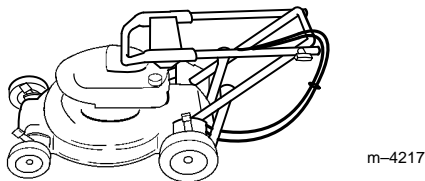

Figure 28
2. Carefully swing the upper handle forward until it rests on the engine (Fig. 28).